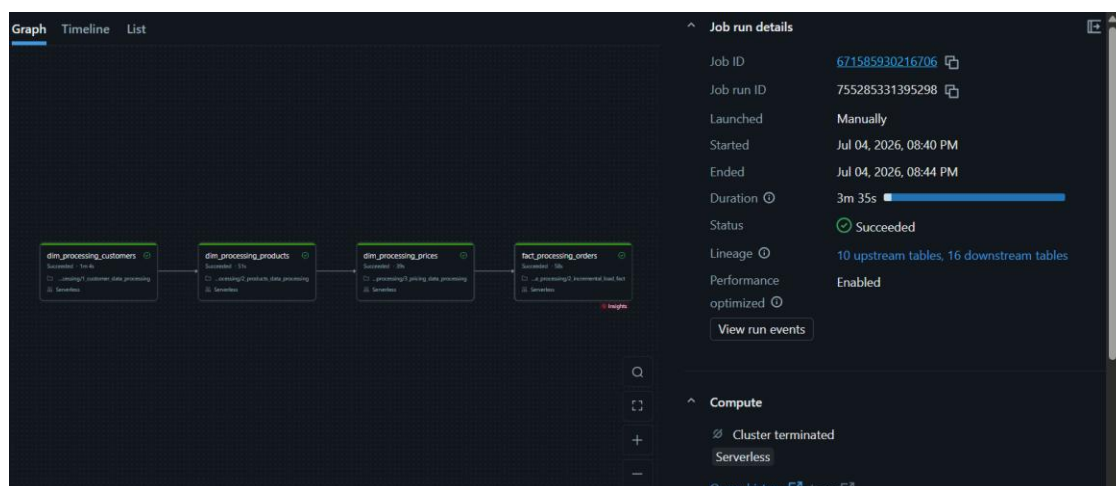

Figure 1: goods_incremental_pipeline_project — Job Run Graph (Succeeded, Serverless compute, 3m 35s)
This layered design isolates raw ingestion issues from business logic, allows independent reprocessing of any layer, and gives lineage that Databricks' Job Run panel already surfaces (10 upstream tables, 16 downstream tables in Figure 1).
- Job Run graph (Figure 1) gives a visual DAG of task status, duration, and dependency order for every run.